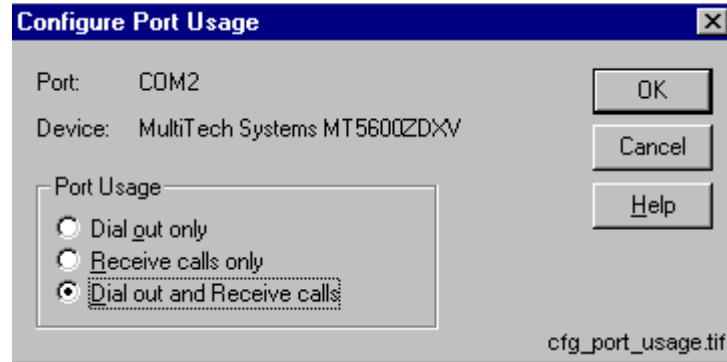

Fig. 5.8.3.-6 Configuring Port Usage
10. Click Network (see Figure 5.8.3.-5).